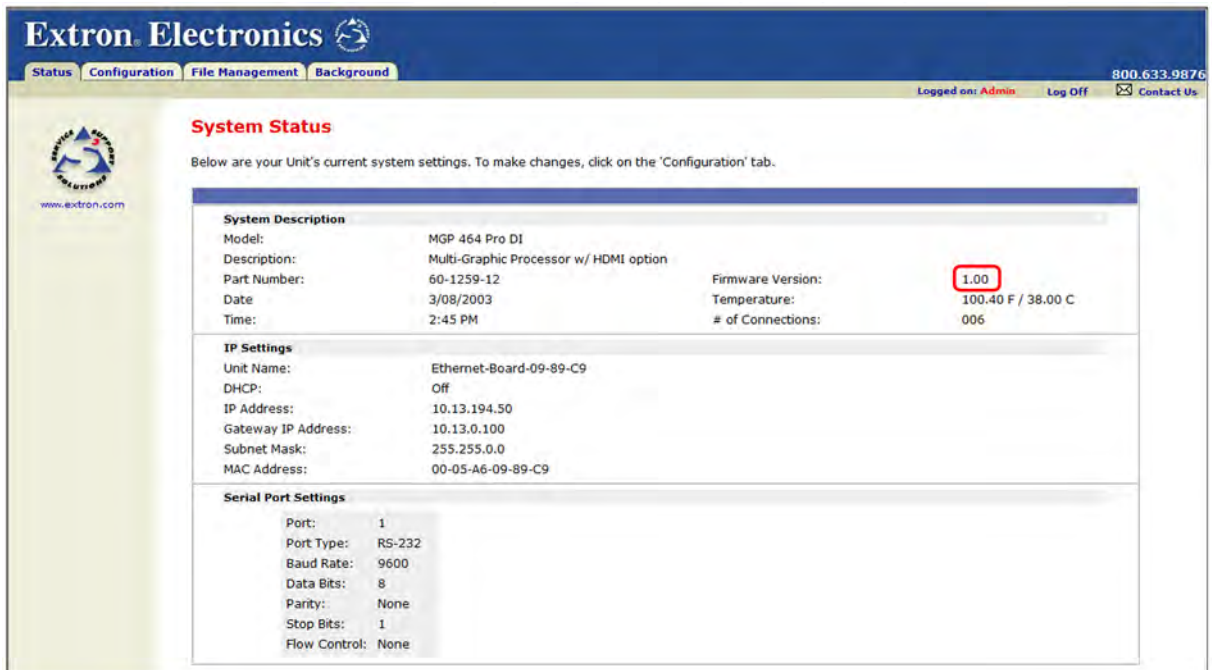

Figure 53. Current Firmware Version on System Status Page
5. Access the System Status page if it is not already displayed. The firmware version is listed in the System Description area (figure 53).